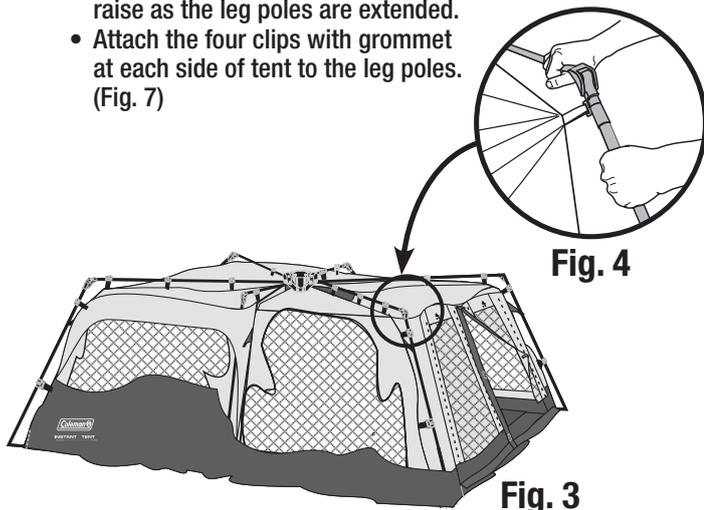

Fig. 3
- Unfold the arm joints located at the tent corners and sides. (Fig. 3 and 4)